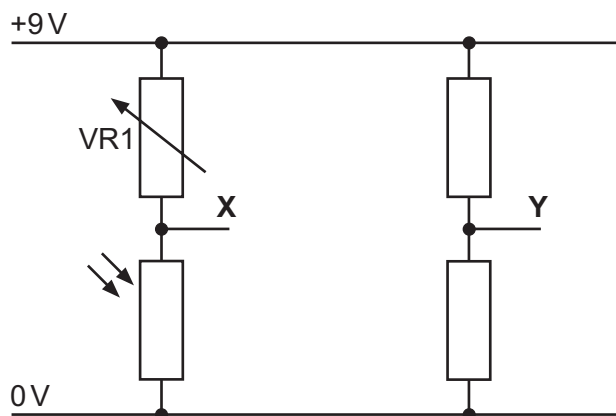

Fig. 12.1
12 (a) Fig. 12.1 shows part of the circuit for an LED night light.
- (iii) Calculate the voltage at point **X** in Fig. 12.1 when the resistance in VR1 is 110kΩ and the LDR resistance is 243kΩ.
- (iv) The voltage at **Y** in Fig. 12.1 has been calculated to be 6.9V.